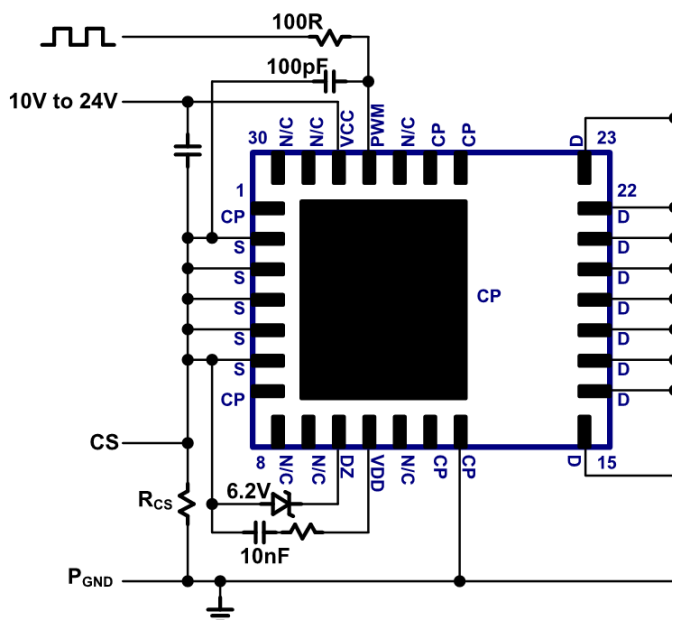

Fig. 24. Current sensing circuit
For many applications it is necessary to sense the cycle-by-cycle current flowing through the power FET. To sense the current flowing through the GaNFast power IC, a standard current-sensing resistor can be placed in between the source and power ground (Fig. 24). In this configuration, all of the components around the GaNFast power IC ( $C_{VCC}$ ,  $C_{VDD}$ ,  $D_Z$ , etc.) should be grounded with a single connection at the source. Also, an additional RC filter can be inserted between the PWM signal and the PWM pin (100  $\Omega$ , 100 pF typical). This filter is necessary to prevent false triggering due to high-frequency voltage spikes occurring at the source node due to external parasitic inductance from the source PCB trace or the current-sensing resistor itself. For increased cooling pad PCB copper area it may be desired to connect CP to the circuit PGND. Fig. 24 shows the components around the GaNFast power IC grounded at the source pins (S and CP connected to PGND). This allows for all CP pins and CP pad to be connected to a large and continuous thermal copper area without being obstructed by the current sensing resistor. CP must be connected to source (S) or circuit PGND! Do not leave CP floating!